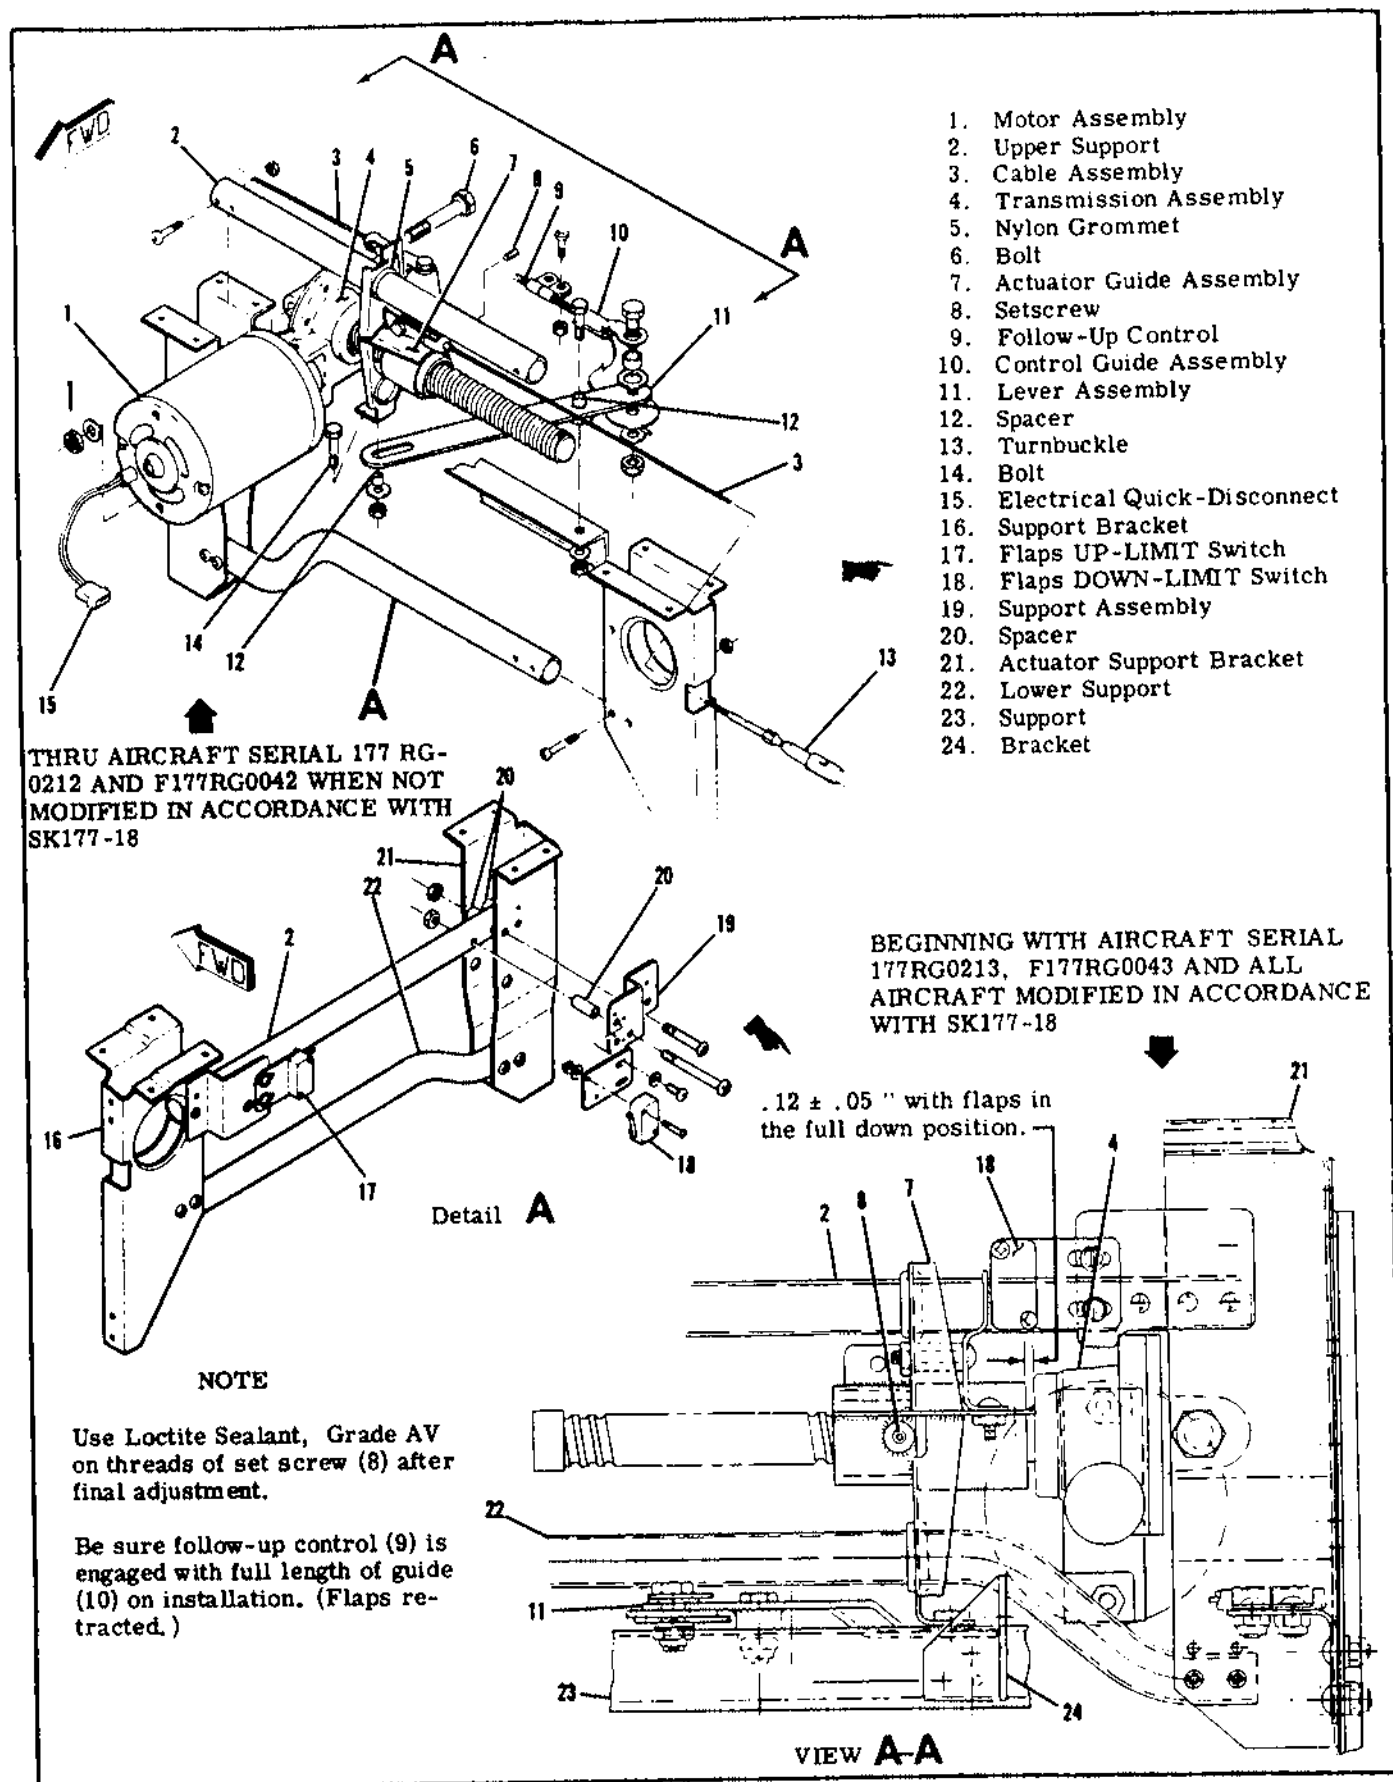
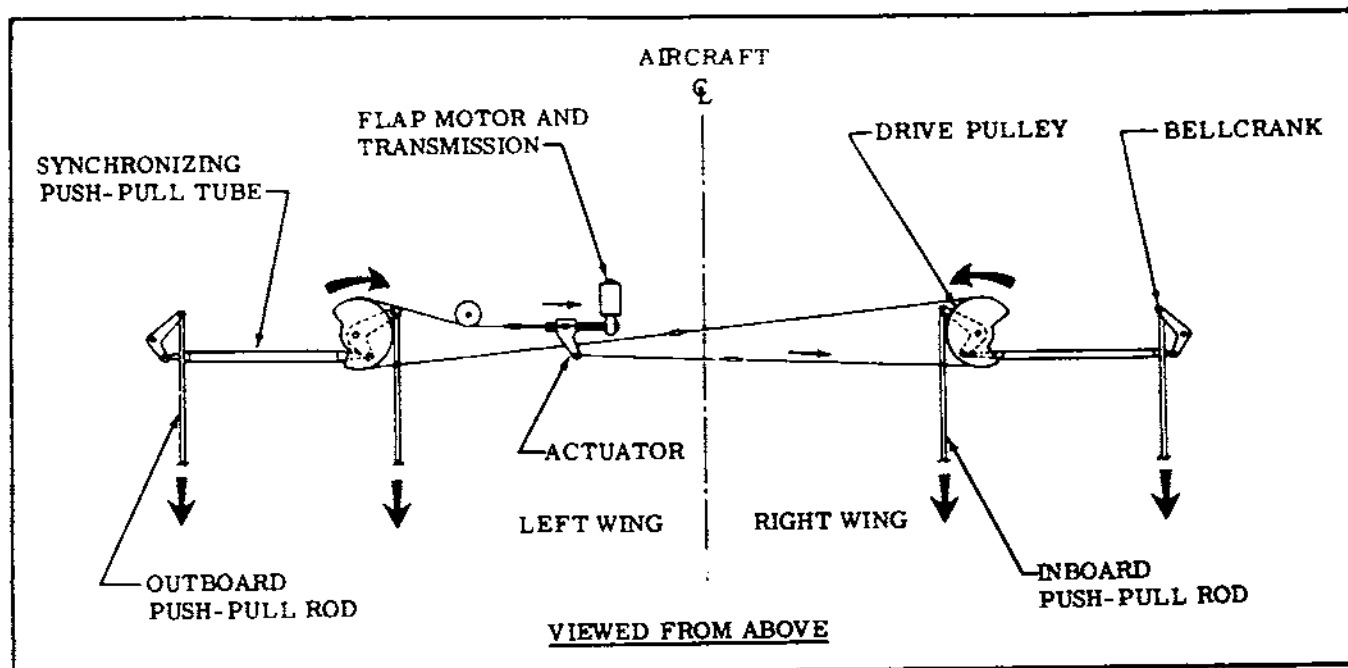

Figure 7-2. Flap Motor, Transmission and Actuator Installation
Figure 7-4. Flap System Schematic
- (Refer to figure 7-2.) Disconnect direct cables (3) from actuator guide assembly (7).
- Remove bolt (14) securing follow-up control lever (11) to actuator guide assembly (7).
- Remove screws securing lower support (22) to brackets (16 and 21).
- Remove bolt (6) securing motor and transmission assembly to bracket (21). Move lower support (22) and motor and transmission assembly outboard to allow access to upper support screws.
- Remove screws securing upper support (2) to brackets (16 and 21). Place switches (17 and 18) and all attaching hardware out of the working area.
- Slide the lower support (22) out of grommet in the actuator guide assembly (7) and remove support from the wing.
- Disconnect electrical quick-disconnect (15).
- Using care, remove motor (1), transmission (4), actuator guide assembly (7) and upper support (2) from wing through access opening as a unit.
- c. Disconnect cables at drive pulleys (2).
- d. Disconnect cables at actuator assembly (index 7, figure 7-2).
1. (Refer to figure 7-2.) Run flaps to the FULL DOWN position.
5. Disconnect both synchronizing push-pull tubes (1) at the drive pulleys (2) and bellcranks (15).
6. If the cables are to be replaced, and the drive pulleys (2) ARE installed in the wings, rotate the drive pulleys beyond their normal range of travel to permit cable attachment. If the drive pulleys ARE NOT installed in the wings, it may be easier to attach the cables prior to installing the drive pulleys in the wings.
7. Attach the direct and carry-thru cables in accordance with schematic in figure 7-4.
8. Adjust the synchronizing push-pull tubes (1) to 41.94" between centers of rod end holes, tighten jam nuts and install push-pull tubes.
9. Adjust inboard push-pull rods (9) to 12.12" and outboard push-pull rods (16) to 11.57" between centers of rod end holes, tighten jam nuts and install push-pull rods.
11. (Refer to figure 7-2.) Run flaps FULL UP AND FORWARD and adjust UP-LIMIT switch (17) to operate and shut-off motor at this position.
b. BEGINNING WITH AIRCRAFT SERIAL 177RG-0213, F177RG0043 AND ALL AIRCRAFT MODIFIED IN ACCORDANCE WITH SK177-18. (Refer to figure 7-2.)
2. (Refer to figure 7-2.) Using the external power source and jumpers, run the actuator guide assembly (7) to $.12 \pm .05$ " between guide assembly (7) and transmission (4) as illustrated in VIEW A-A. Adjust the DOWN-LIMIT switch (18) to operate and shut-off motor at this position. **DO NOT ALLOW GUIDE ASSEMBLY TO SEAT AGAINST TRANSMISSION.**